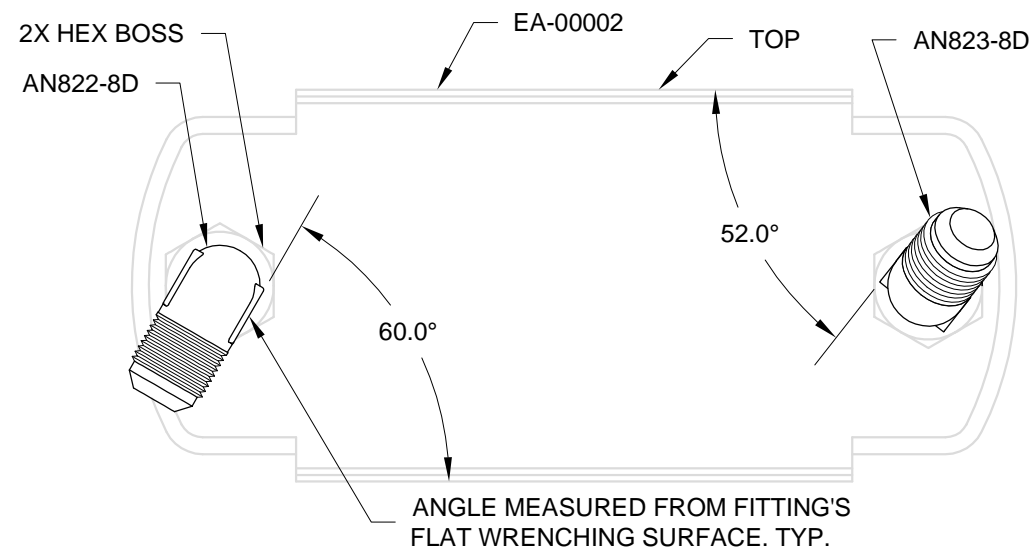

FIGURE 2: OIL COOLER FITTINGS INSTALLATION (TAIL DRAGGER)
Step 1: (Tail Dragger) Install the 90° elbow into the EA-00002 Oil Cooler 2006X. See Figure 2.
Install the 45° fitting into the oil cooler. See Figure 2.